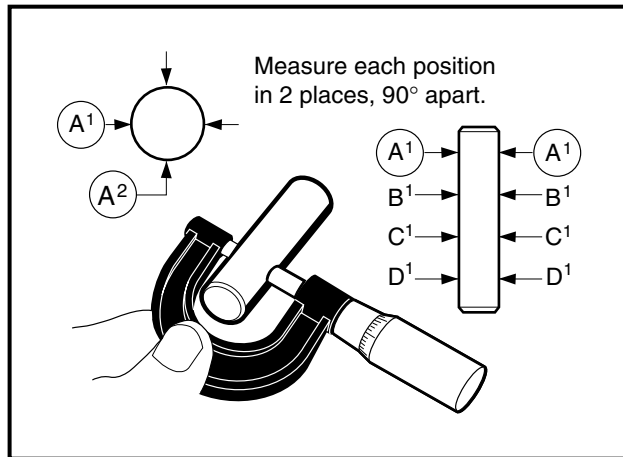

Figure 13-54 Measure Piston Pin O.D.
1. Using a micrometer, measure the outside diameter of the piston pin at several points along its length (**Figure 13-54, Page 13-29**).